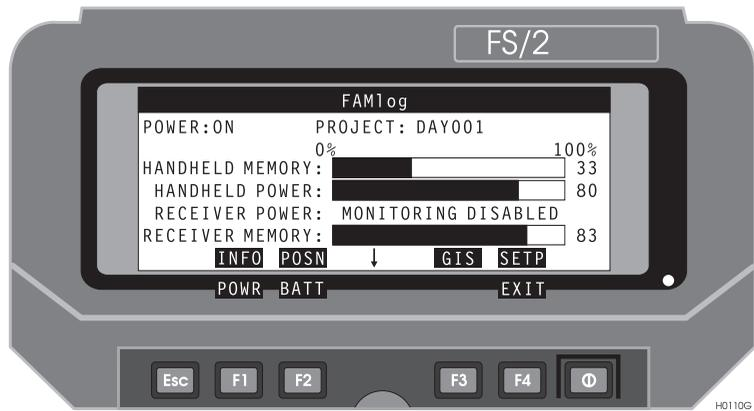

Figure 3.33: FAMLog Screen
- On the FS/2, call the FAMLog screen, Figure 3.33.